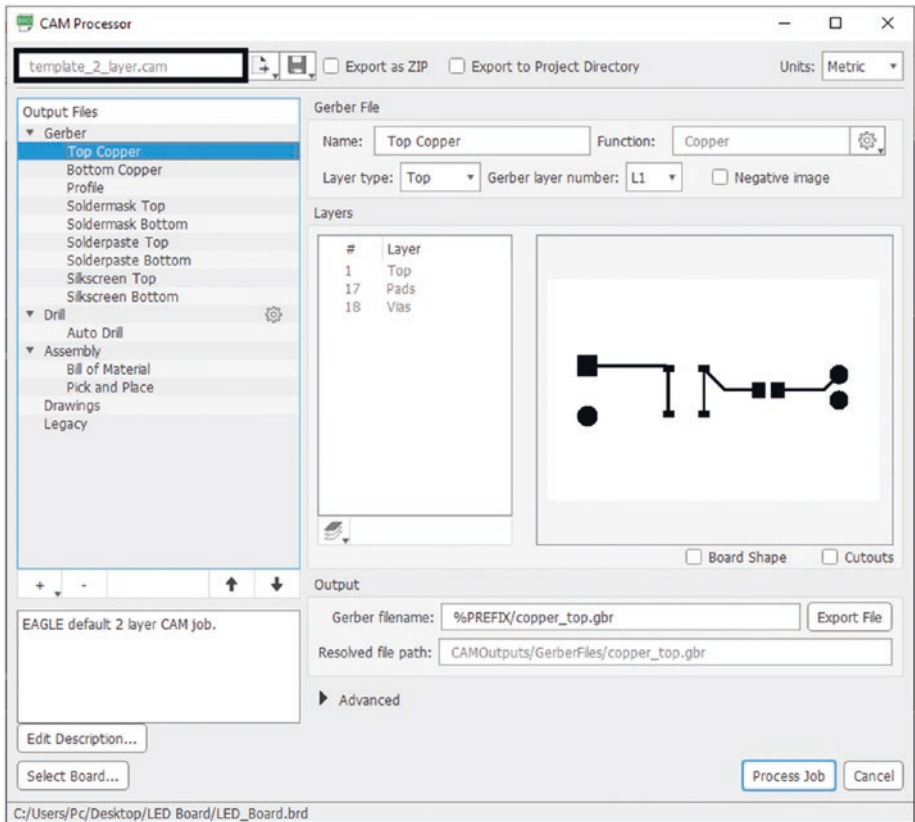

Figure 5-81. CAM Processor window with “Job” name highlighted
3. At the top, you will see the “Job” file that is currently being utilized, “template_2_layer.cam.” This job will work for the current PCB we have created, but if we say had a four-layer board, this job would need to be modified to include those layers, as well as any other layers, such as soldermask or silkscreens those layers may also employ. See Figure 5-81.